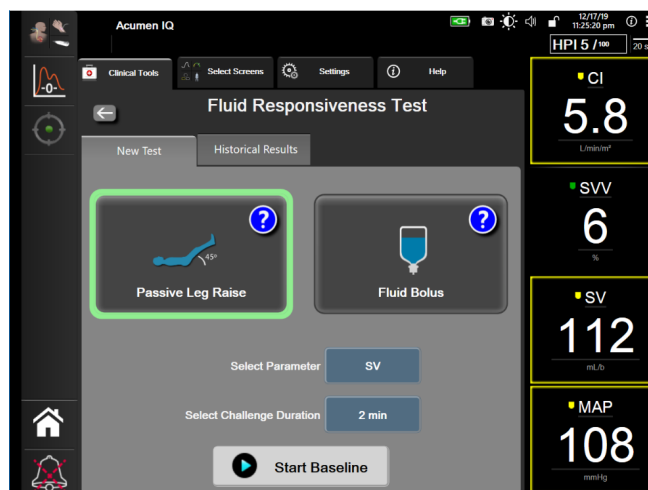

Figure 14-16 Fluid Responsiveness Test – New Test Screen
- 3 On the **New Test** tab (see Figure 14-16), touch the desired test type: **Passive Leg Raise** or **Fluid Bolus**.